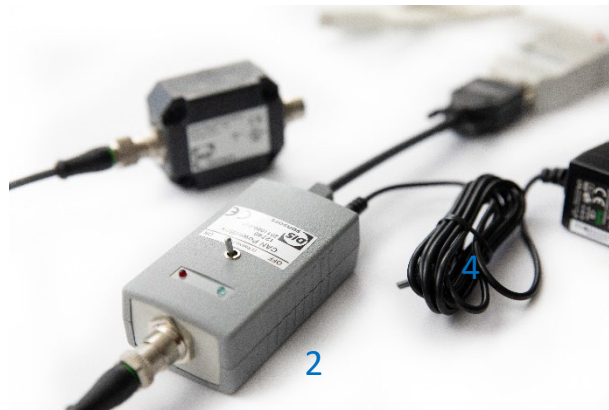

Figure 18 - Power adapter for the CAN power box
- Item 4: Power adaptor. (Figure 18)